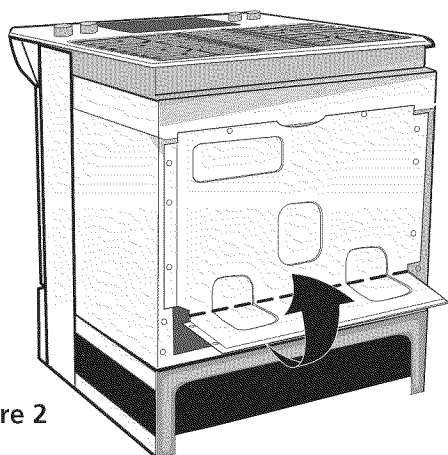

Figure 2
1. Remove the 3 screws at the lower end of the rear wire cover, then bend the lower end of the rear wire cover (access cover) upward to expose range terminal connection block (Figure 2).
1. Remove the 3 screws at the lower end of the rear wire cover, then raise the lower end of the rear wire cover (access cover) upward to expose range terminal connection block (see Figure 2).